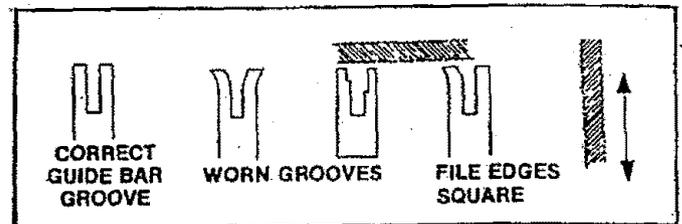

Figure 45
- d. Remove burrs by filing the side edges of the guide bar grooves square with a flat file. Figure 45.
- e. Restore square edges to an uneven rail top by filing with a flat file. Figure 45.